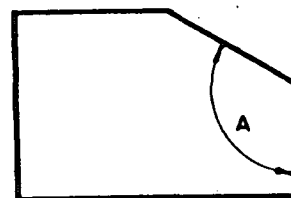

Fig. 8
4. When the angle is obtuse and one side is perpendicular to the horizontal plane (Fig. 8), the angle is equal to $180^\circ - A$.